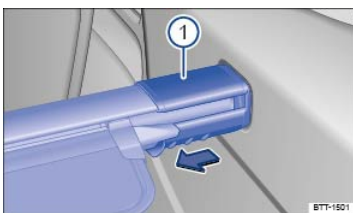

Fig. 157 In the luggage compartment: Removing the luggage compartment cover.
- Push the retainer for the luggage compartment cover ⇒ *Fig. 157*① in the direction of the arrow.
- Push the luggage compartment cover retainer ⇒ *Fig. 157*① into the right-hand mounting.